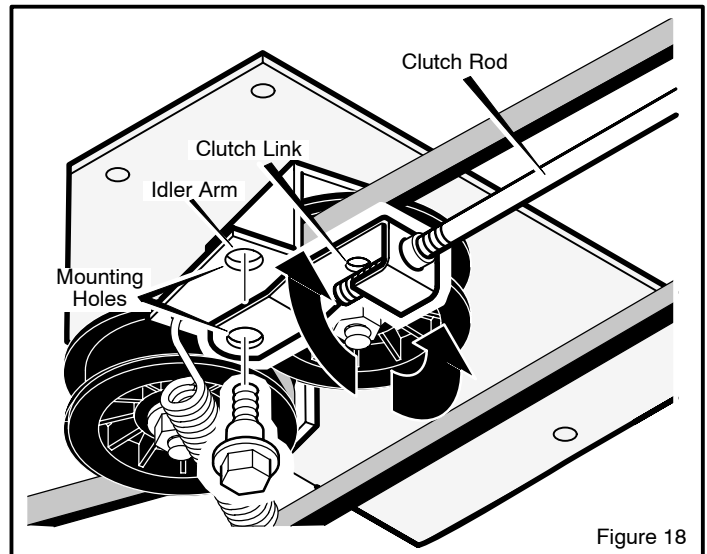

Figure 18
2. Disconnect the **clutch link** from the **idler arm** (Figure 18).
4. Rotate the **clutch link** until the mounting hole in the **clutch link** is aligned with the hole in the **idler arm** as shown in Figure 18.
5. Connect the **clutch link** to the **idler arm** (Figure 18).